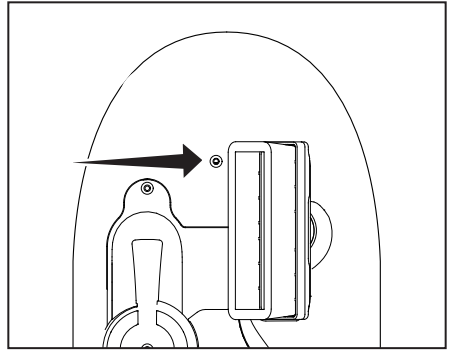
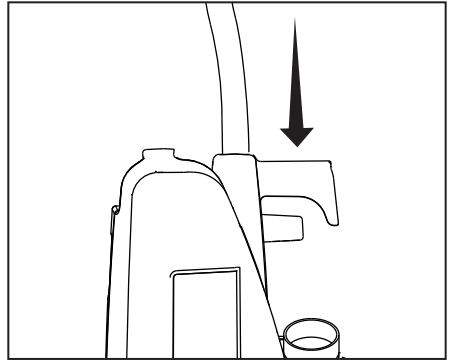

Fig. 1
Fig. 2
- Remove the handle screw located on the back of the vacuum (Fig. 1). Insert the handle downward into the body of the vacuum (Fig. 2). Insert screw and tighten.